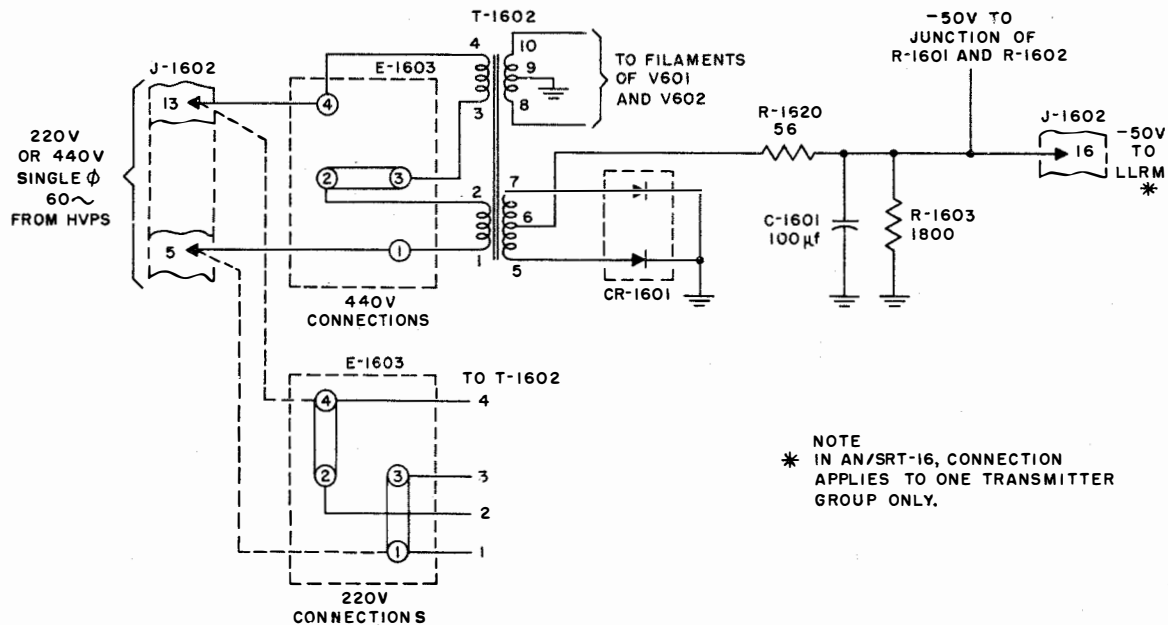

Figure 2-93. -50-Volt Bias Supply, Simplified Schematic
c. -50-VOLT BIAS SUPPLY.—To operate the audio amplifiers at the desired class AB₂ operation, a -50-volt bias supply is required. This supply (figure 2-93) is obtained from terminals 5 and 7 of T-1602, using metallic rectifier CR-1601 connected as a negative full-